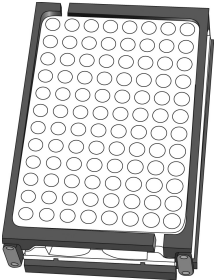

Fig. 5. The ProteinChip cassette-compatible bioprocessor fully assembled.
6. When assembled correctly, the bioprocessor should look identical to the one shown in Figure 5.